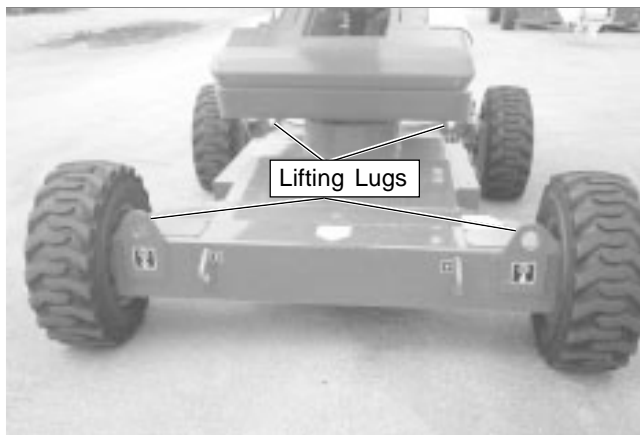

Figure 9.4 – Lifting Lugs
8. At each drive wheel, remove the two bolts and return the plate to its original position as shown in Figure 9.4.
2. Inspect the lifting lugs (refer to Figure 9.4) to make sure they are free of cracks, rust, and are in good condition. Have any damage repaired by a qualified service technician before attempting to hoist the machine.